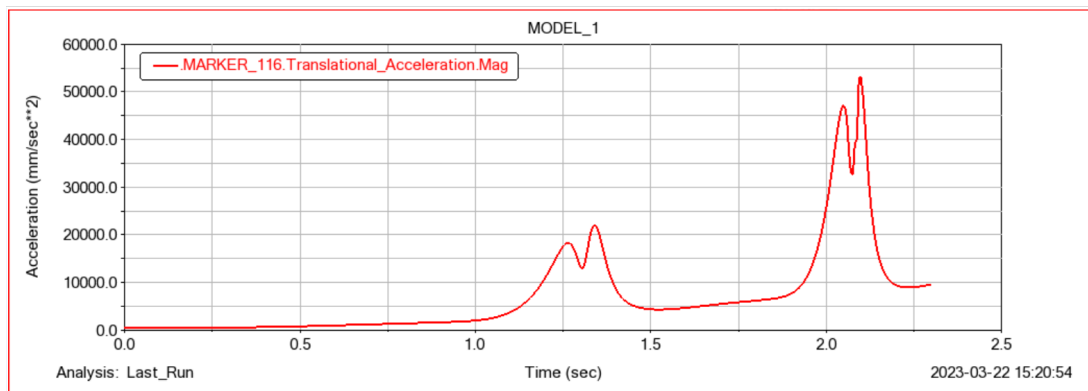

Fig. 6: Acceleration vs time
2. Acceleration plot is shown in fig 6